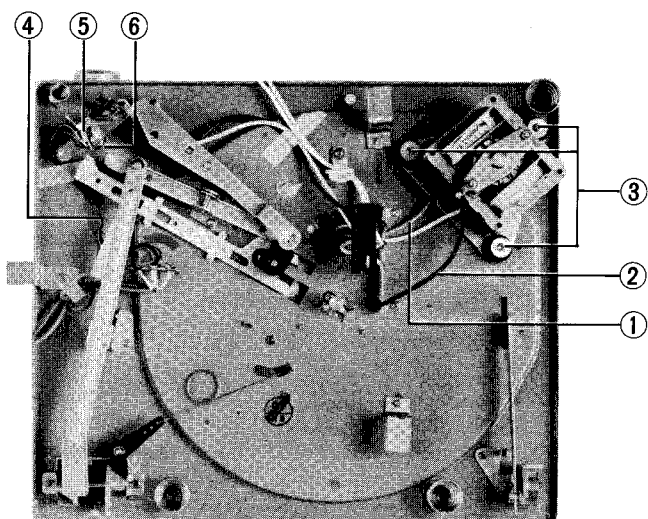

Fig. 28
- 1) Remove three wires ①, ② from motor terminals (Fig. 28).
- 2) Remove three screws 3 (Fig. 28).
### 2. Replacement of Pick-up Arm (Fig. 28,29)